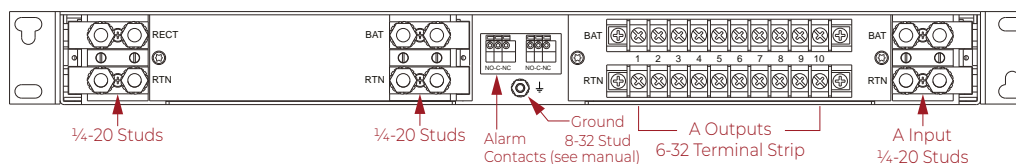

Figure 8. Back Panel View with LVD
9.1 Figure 8 shows the back of the DPU1U combination panel with the LVD section fitted on the B side. The A side inputs are at the right end with side A outputs to the left of them. B side inputs and outputs are to the left and right of the left section respectively.